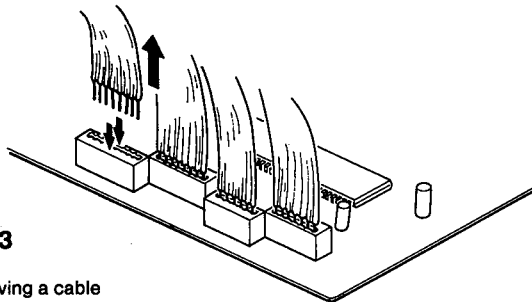

Fig. 3
- (1) Remove the top cover.
- (2) Remove four screws which fix the front panel on the chassis.
- (3) Pull the panel frontward pushing sides outside.
- (4) Remove four cables from the panel to the main pc board (CN307 - CN310). (fig. 3, 4)